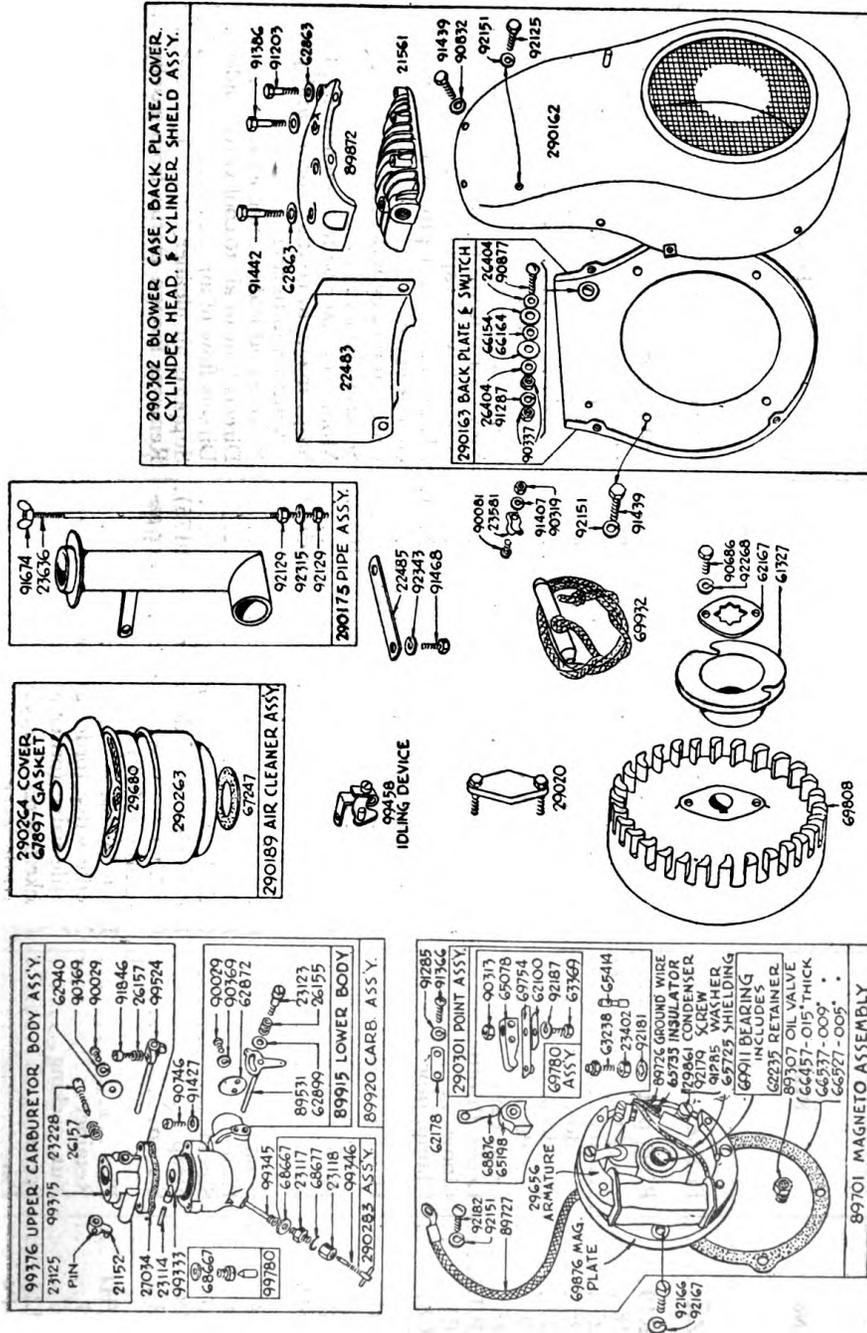

FIGURE 21.1 (Added). Power Unit PE-75-U, engine parts.
a. (Superseded.) Gasoline engine, Briggs and Stratton Model ZZ (figs. 21 and 21.1). Note that figure 21.1 covers PE-75-U only, showing the differences between this and earlier models. Complete assemblies as shown in figure 21.1 are stocked and should be ordered for unit replacement rather than as individual items.